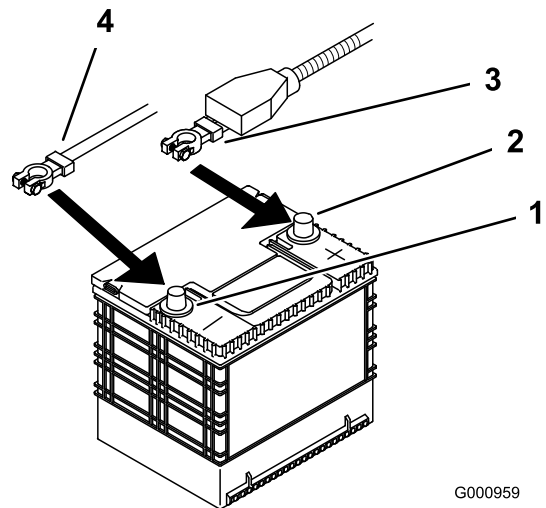

Figure 52
4. First disconnect the negative battery cable from the negative (-) battery terminal (Figure 52).
5. Slide the red terminal boot off the positive (red) battery terminal. Then remove the positive (red) battery cable (Figure 52).
1. Position battery in the tray with the terminal posts opposite from the hydraulic tank (Figure 52).
4. Secure the cables with 2 bolts (1/4 x 3/4 inch), 2 washers (1/4 inch), and 2 locknuts (1/4 inch) (Figure 52).